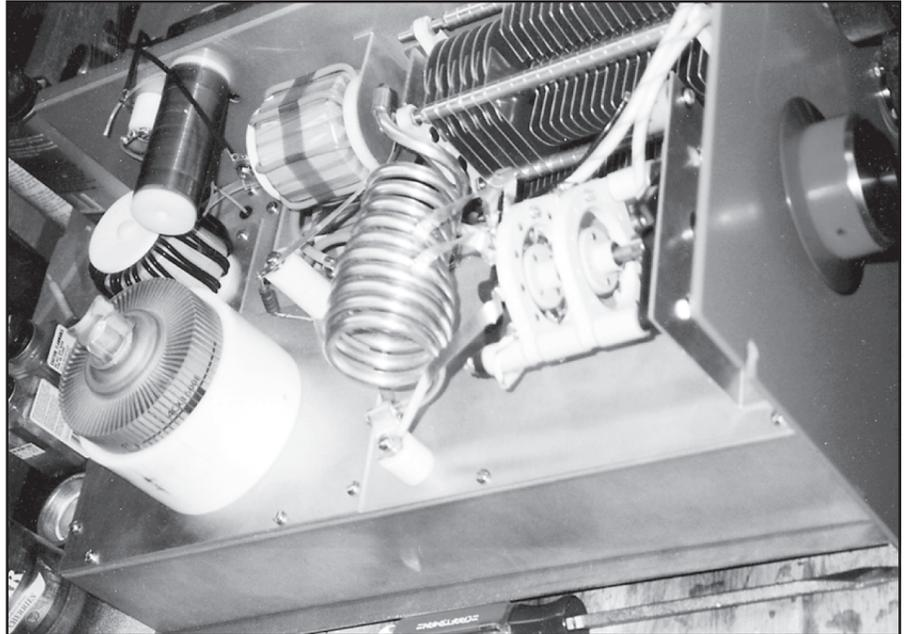

Fig 18.32—Another view of RF deck during construction.
- J1—110 V ac, 15 A receptacle for plug P1 on Fig 18.32.